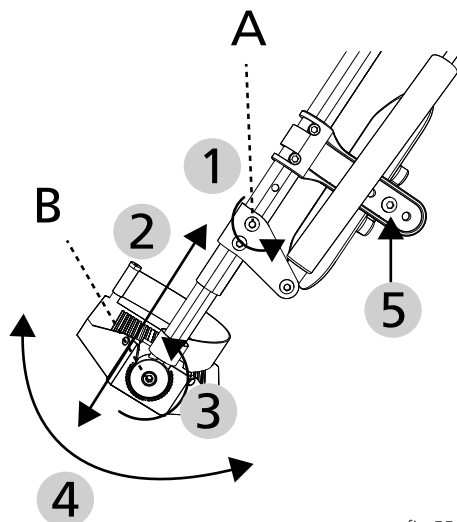

fig.55
The calf pad have to be installed before using for the first time. Use the enclosed 5 mm Allen screw and nut and install in the third position hole on the calf pad holder (see 5, fig. 55 s. 44).
1. To adjust the length, loosen the Allen screw 4 mm (A, fig. 55) by a few rotations (1, fig. 55), but do not loosen it fully.
2. Then pull/slide the foot plate to the desired length (2, fig. 55). Pay attention to the minimum gap of 40 mm between the foot plate and the ground.
3. To lock it in place, tighten the screw (A, fig. 55) again firmly. Make sure that the screw engages in the interior carriage.
1. Loosen the Allen screw 5 mm (B & 3, Fig.55).
3. Re-insert the foot plate at the desired angle (4, fig. 55).